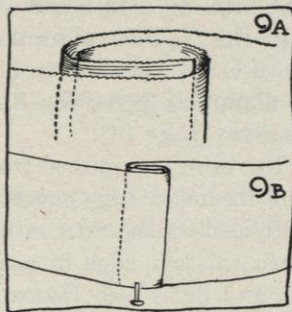

FIG. 9 A-B.
- (5) Slip one cut edge inside of the other (see Figure 9 A) and pin at edge, so that the woven edges just meet (see Figure 9 B). This is called a welted seam, and the narrower it is the better.